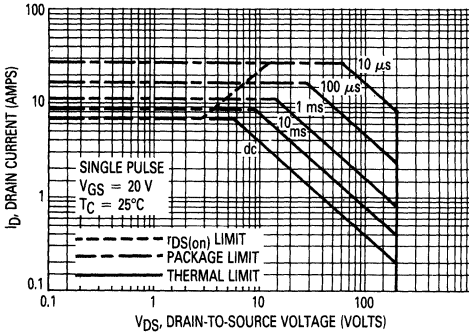

Figure 7. Maximum Rated Forward Biased Safe Operating Area
The dc data of Figure 7 is based on a case temperature (T_C) of 25°C and a maximum junction temperature ($T_{J(max)}$) of 150°. The actual junction temperature depends on the power dissipated in the device and its case temperature. For various pulse widths, duty cycles, and case temperatures, the peak allowable drain current (I_{DM}) may be calculated with the aid of the following equation:
- $I_D(25^\circ C)$ = the dc drain current at $T_C = 25^\circ C$ from Figure 7